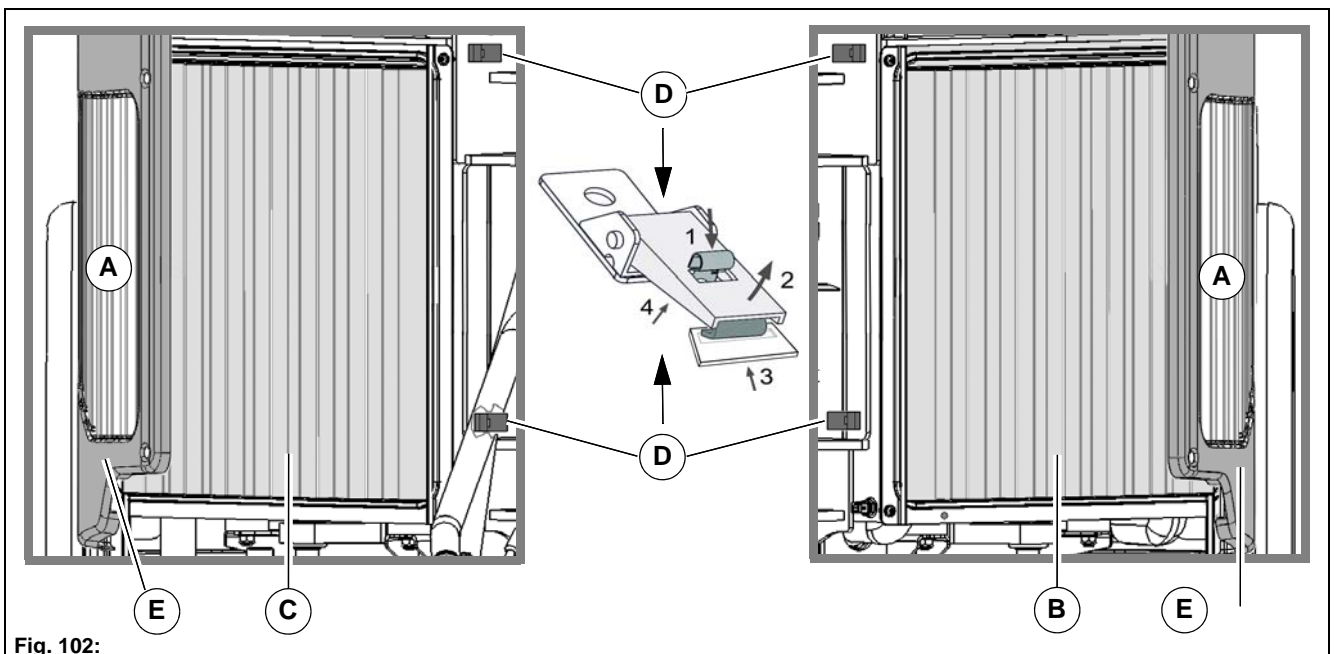

Fig. 102:
Check the grille screen **Fig. 102-A** and the cooling fins of the combination cooler located behind **Fig. 102-B** and of the hydraulic oil cooler **Fig. 102-C** daily and clean as required.
2. Open the lock **Fig. 102-D** (see sketch) and swing down the radiator cover **Fig. 102-E**.